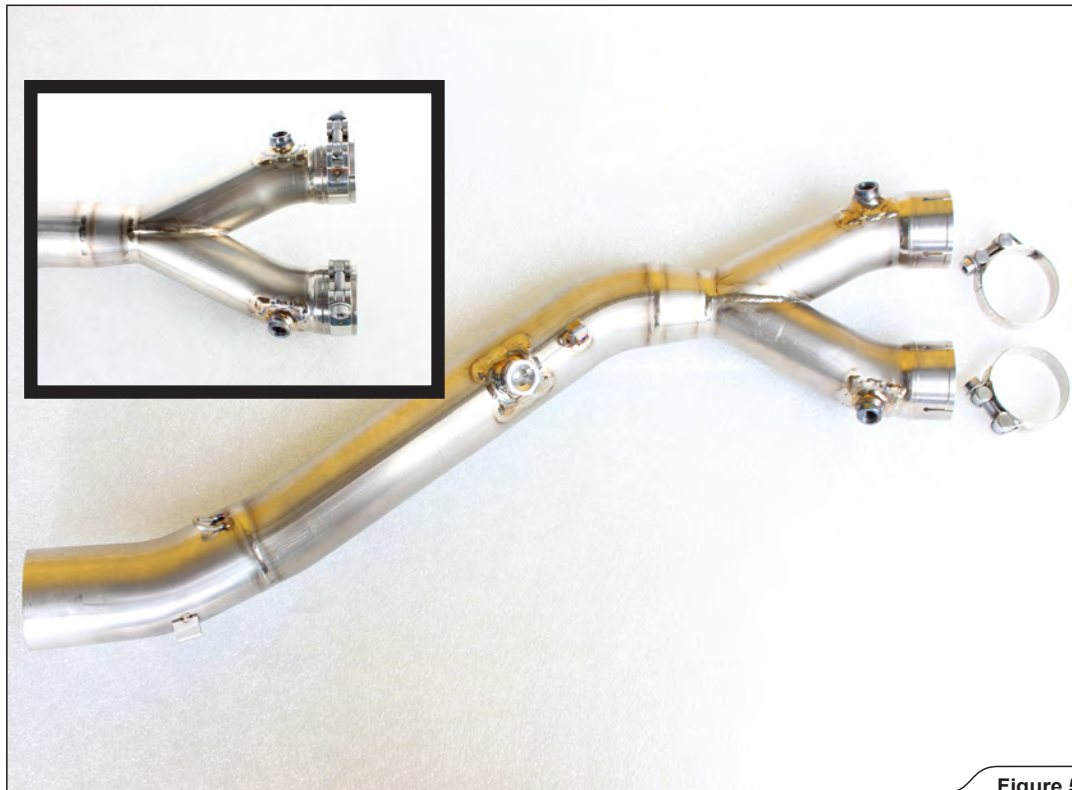

Figure 5
1. Install clamps from Akrapovič installation kit onto the link pipe as shown (Figure 5).